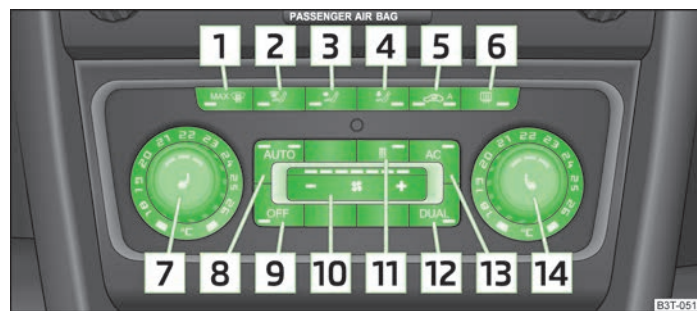

Fig. 109 Climatronic: Control elements
- > (AC) [13] » Fig. 109 on page 97 switched on.
- > Press the button (AUTO) [8] » Fig. 109 on page 97.
- Press the button **AUTO** **8** » Fig. 109 on page 97. The indicator light in the top right or left corner lights up, depending on which mode was last selected.
- Press the button **AC** » Fig. 109 on page 97. The indicator light in the button lights up.
- The temperature for both sides can be set with the control dial **7** » Fig. 109 on page 97 after switching on the ignition.
If the indicator light in the button **DUAL** **12** » Fig. 109 on page 97 is illuminated, the temperature for both sides cannot be set with the control dial **7**. You can reactivate this function by pressing the button **DUAL**. The indicator light in the button goes out.
➤ Repeatedly press the button  **5** » Fig. 109 on page 97 until the indicator light on the left side of the button is illuminated.
- If the windscreen mists up, press the button  **1** » Fig. 109 on page 97. Press the button **AUTO** when the windscreen is demisted.
➤ Repeatedly press the button  **10** » Fig. 109 on page 97 on the left side (reduce blower speed) or on the right side (increase blower speed).
- Press the button  **1** » Fig. 109 on page 97.
- Press the button  **11** » Fig. 109 on page 97.